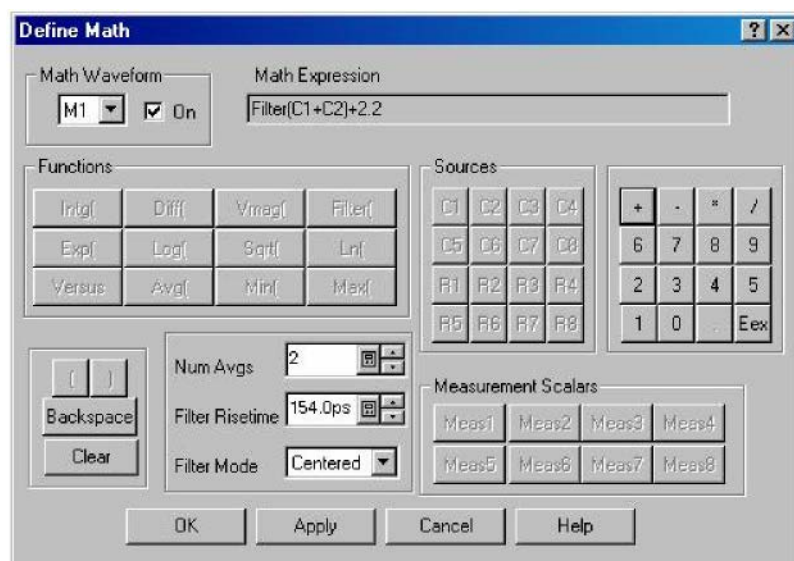

Figure 11: Entering the difference value
16. Press the **ACQUISITION MENU** button to display the **Math Expression** window as shown in Figure 11